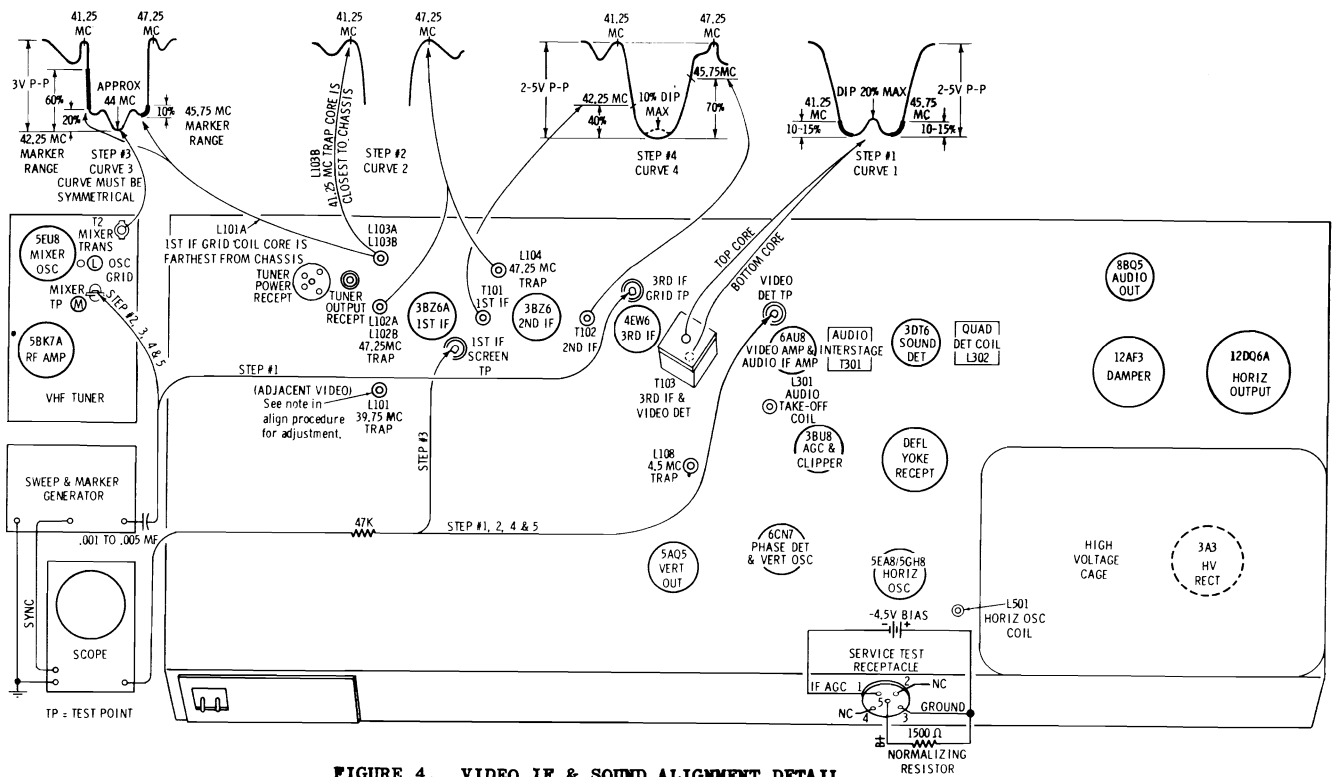

FIGURE 4. VIDEO IF & SOUND ALIGNMENT DETAIL
3. Disable oscillator by shorting point "L" located near mixer-oscillator tube V-2, to chassis. See Figure 4.
10. Refer to Video IF & Sound Alignment Detail for component and test point locations (Figure 4).
3. Refer to Video IF & Mixer Alignment Detail for coil and test point locations (Figure 4).